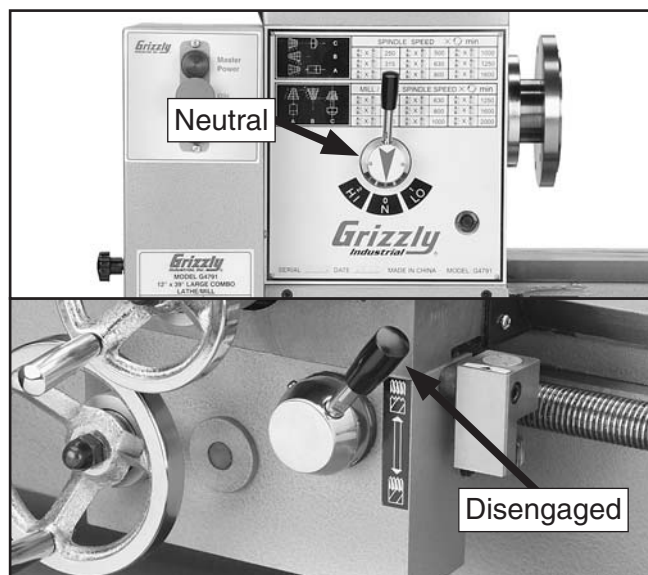

Figure 13. Feed rate range lever and the half-nut lever in the neutral/disengaged position.
6. To keep the leadscrew from rotating when the lathe is running, move the feed rate range lever to the vertical so that it points to neutral "0/N", as shown in **Figure 13**.
7. For further precaution, move the half-nut lever up to the disengaged position to ensure the carriage will not move under power when the lathe is running (**Figure 13**).
8. Make sure the feed rate range lever is in the neutral (center) position, and the half-nut lever is in the disengaged (up) position (see **Figure 13** on **Page 18**).